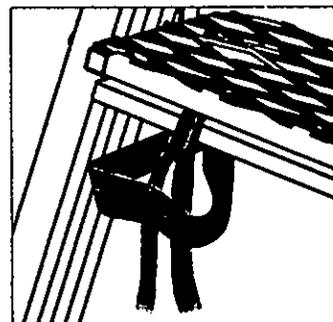

Figure 2A: Attaching the straps
3. Attach backpacking straps (48067) on packed ladder. Fold strap in half. Feed folded strap through foot platform mesh and around platform frame **OR** around the ladder rung located directly underneath the foot platform. Feed the two loose ends of strap through folded loop and pull tight forming a cinch knot. **SEE FIGURES 2A AND 2B.** Feed the two loose ends of straps around bottom group of ladder rungs and secure with provided tri-slide buckles. **SEE FIGURE 2C.**